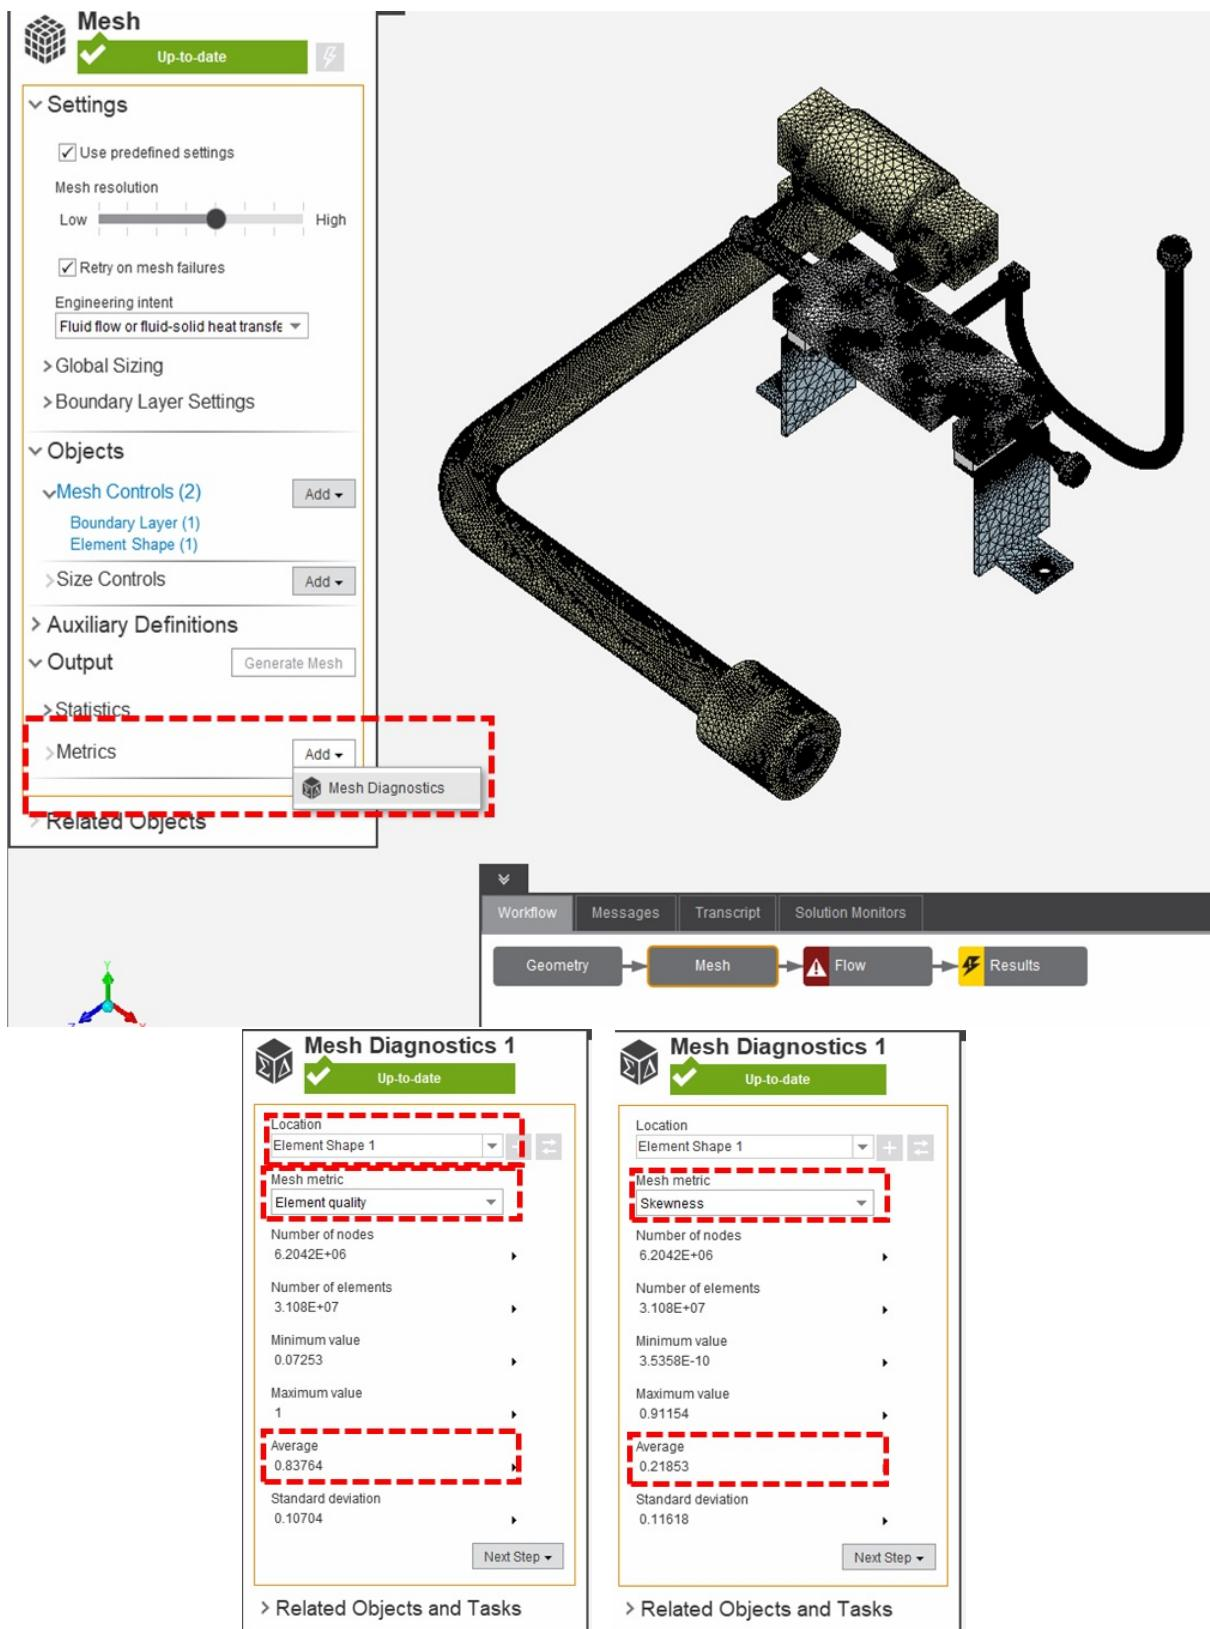

Figure 3.7:
6. The quality and skewness of the mesh are found in Metrics and are evaluated using Mesh Diagnostics as shown in Fig. 3.7. Average element quality higher than 0.8 and average skewness lower than 0.25 are fairly good to ensure quality results. If these two values are unsatisfactory, adjustment to a higher Mesh resolution can improve them before proceeding to Flow.